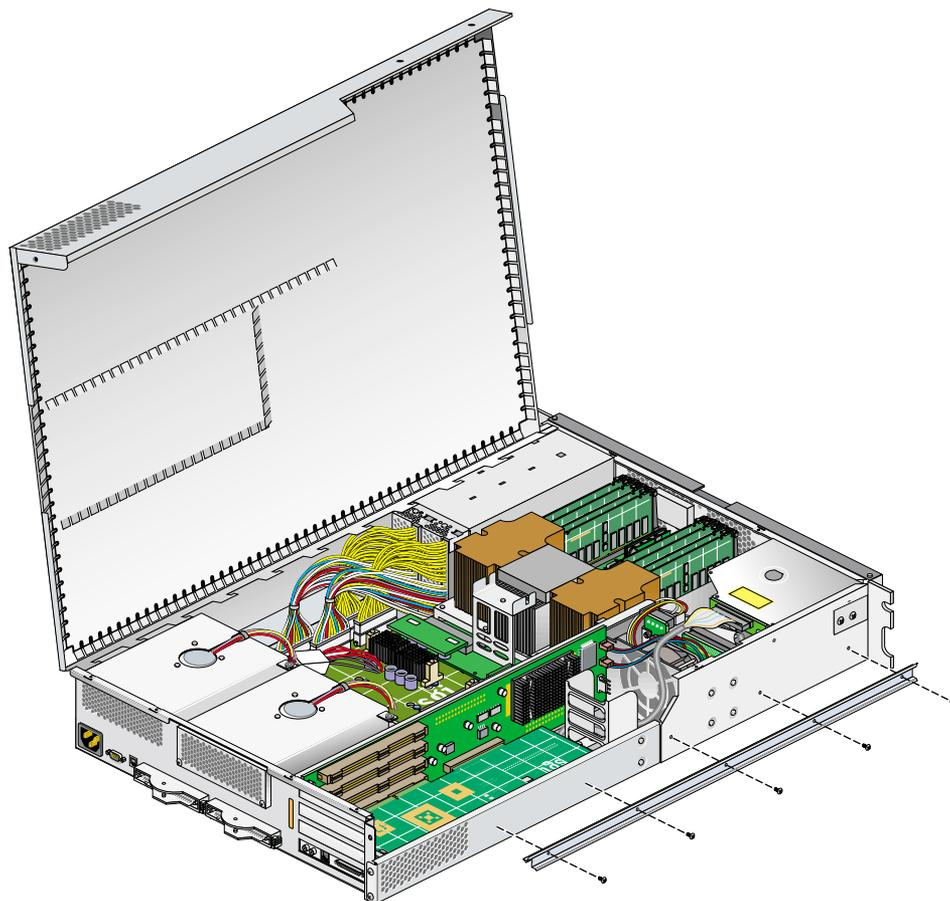

Figure 7-9 Replacing the Chassis Rail
13. Replace the optional chassis rail (if applicable) by screwing in the five Phillips screws, as shown in Figure 7-9.